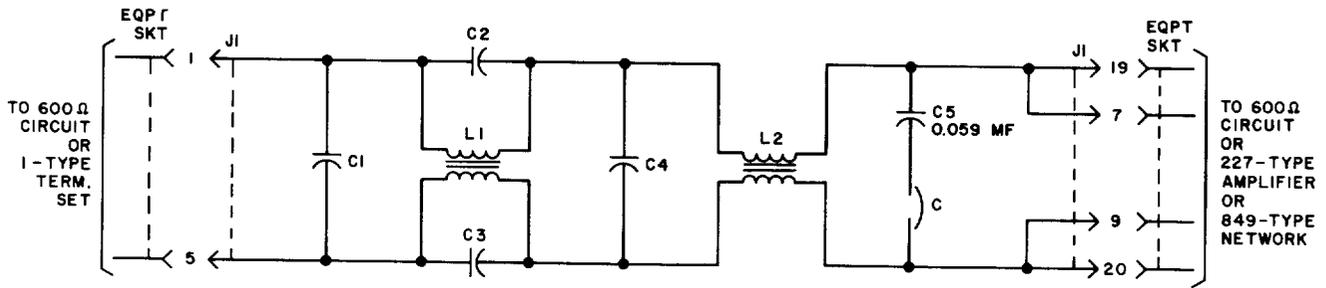
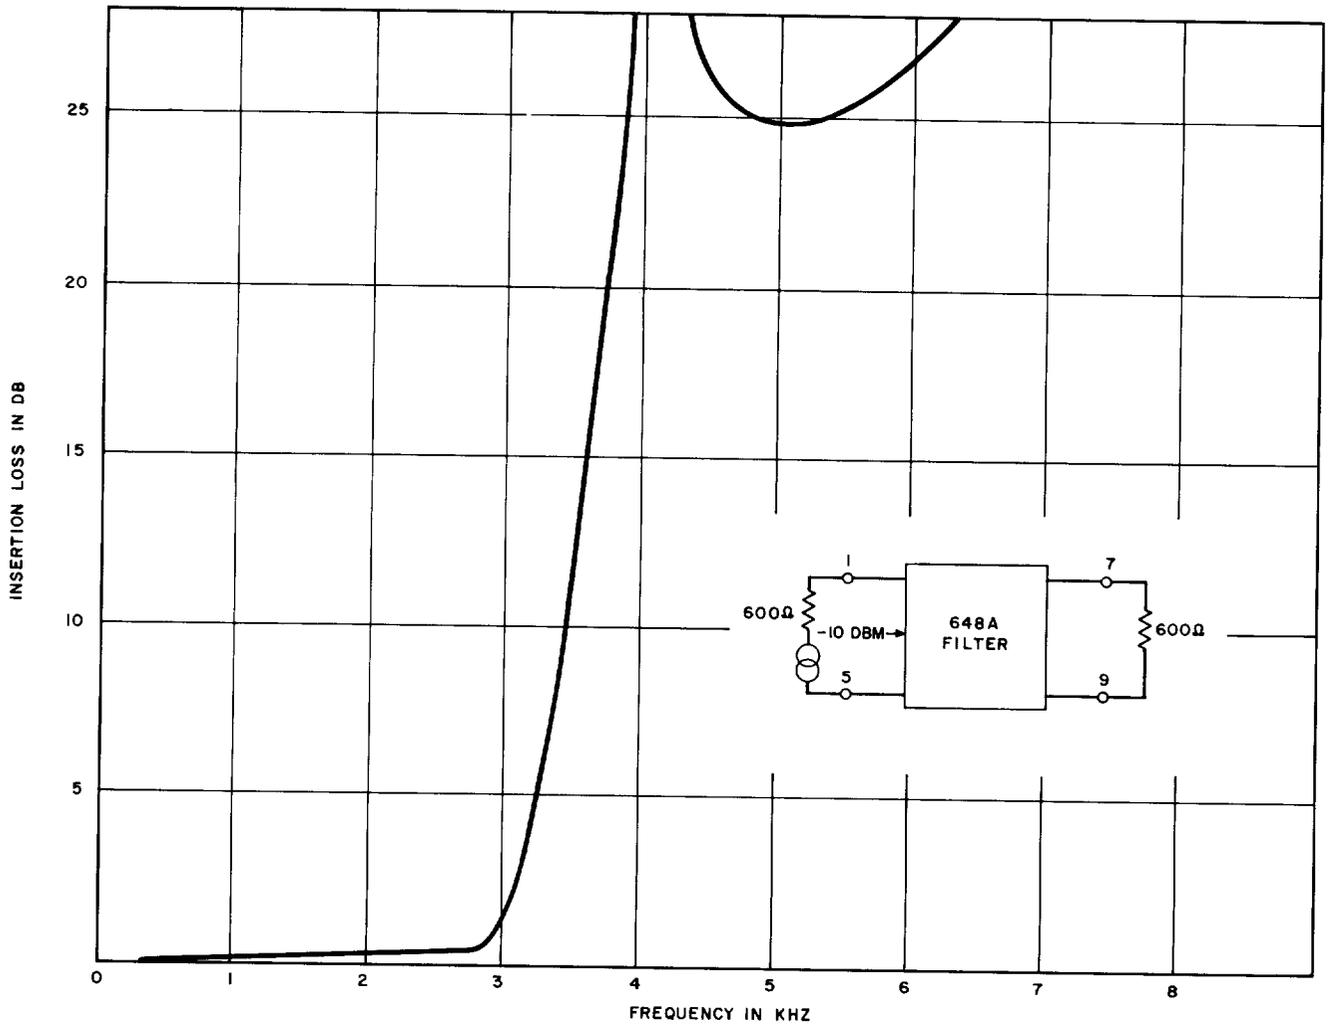

Fig. 2—648A Filter—Schematic
Fig. 3—648A Filter—Insertion-Loss Characteristic
3.01 The 648A filter (see Fig. 2) is a 2-section ladder network consisting of five capacitors and two inductors. The circuit is designed to have a minimum insertion loss over the voice-frequency band with a cutoff frequency (3.0-dB point) of 3150 Hz. The filter works between 600-ohm impedances, and the return loss of the 1,5 side against 600 ohms when the 7,9 or 19,20 side is terminated in 600 ohms is greater than 11 dB over the 300- to 2900-Hz band. The insertion-loss characteristic of the 648A filter is shown in Fig. 3, and the return-loss characteristic is shown in Fig. 4.
3.03 The filter performance characteristics of Fig. 3 and 4 were measured with an input power level of -10 dBm. When the level is raised to +20 dBm, the 3-dB cutoff frequency is lowered to about 3100 Hz. The passband losses remain substantially the same but the characteristic from about 3000 to 3900 Hz moves down about 50 Hz. ♦An insertion-delay characteristic is shown in Fig. 5.♦